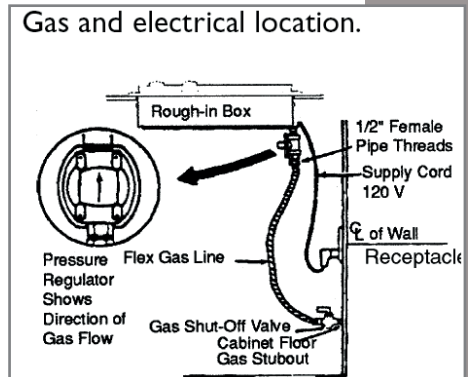

Fig. 3
- f) After installing a gas shut-off valve in an easily accessible location under the unit (see fig. 3), install the pressure regulator (supplied) to manifold pipe using Teflon® tape on threads of manifold pipe. To prevent possible damage to the gas pressure regulator, install it after the rough-in box is in its permanent position.
CAUTION: do not attempt any adjustment of the pressure regulator, except conversion to propane. Connect the gas supply line to the unit pressure regulator using a 1/2" flex gas line connector between wall shut-off valve and pressure regulator (see complete procedure in fig. 3).